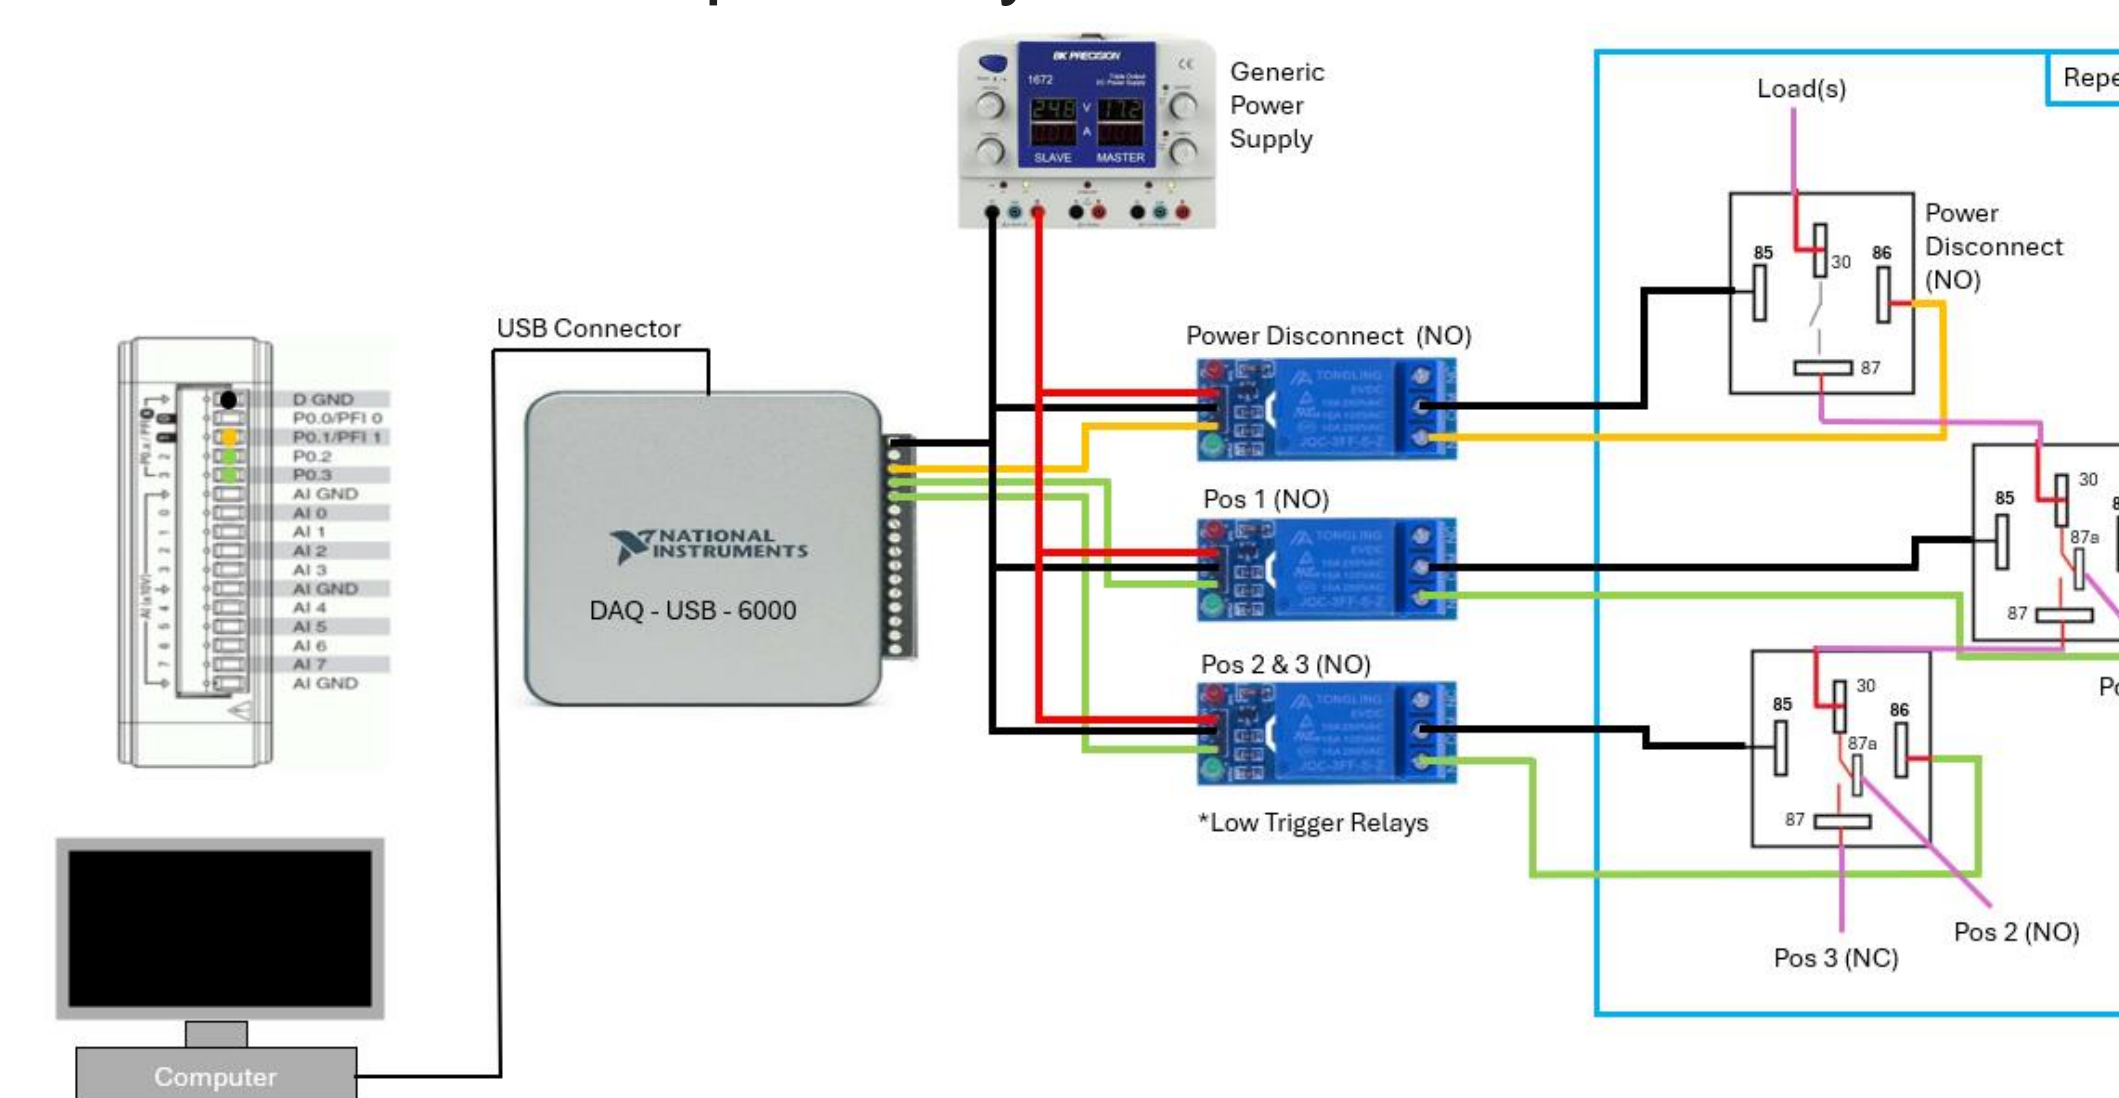

Figure 7. Final design of Relay Matrix
- Controls the larger relays using the smaller low-trigger relays (Figure 7)